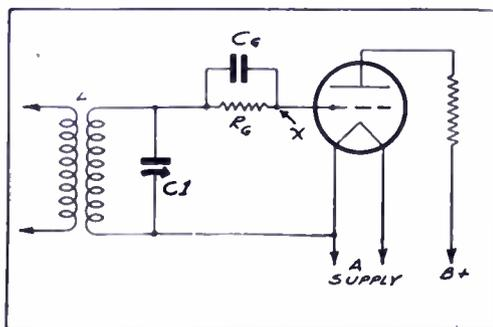

FIG. 1
An elementary detector circuit of the grid-leak and grid-condenser type is shown in Fig. 1. There is nothing unusual about it, with the possible exception that it is not essential that the grid return connect to the positive end of the filament in filament-type tubes, a connection which is absolutely necessary when weak signals are to be handled. In any event, no intentional bias is placed on the grid of the tube.
It appears, though, that R_g and C_g cannot be made too small. Note from the diagram of Fig. 1 that, as far as the radio-frequency signal is concerned, the actual voltage on the grid is the signal voltage across the tuning condenser C_1 minus the voltage drop across the leak-condenser combination. If the impedance of the combination is very high (R_g and C_g small), then the voltage drop across it will be high, and the actual voltage across the grid and cathode or filament will be greatly diminished.
Optimum performance results for fixed- and self-bias conditions are shown in Figs. 1 and 2, respectively. From these curves, it is apparent that the greatest power output is obtained with the fixed-bias condition. This represents the ideal case because the fixed bias from the low-resistance battery employed minimizes degenerative effects. When the grid-bias voltage is taken from the power-supply voltage divider (semi-fixed bias) or a from a self-biasing resistor, the power output is reduced for two reasons. These are (1) that the bias-voltage fluctuates due to change in d.c. plate current with signal, and (2) that the bypassing of the a.c. component around the biasing resistor may be inadequate. Ordinarily, the power output will be somewhat less with self-bias, because this arrangement generally has the poorest regulation. Semi-fixed bias will give results between the fixed- and the self-biased arrangements. The curves of Fig. 2 show the optimum power output that can be obtained with the self-bias arrangement under the given conditions. In this case, sufficient capacity was used across the cathode
The plate characteristics shown in the figure directly below may be used to compute the characteristics given in Figs. 1 and 2 for any load requirement, except, of course, the grid current characteristics. This computation is of value when the load into which the amplifier is fed is different from that stated on the curves themselves. Study this article carefully.